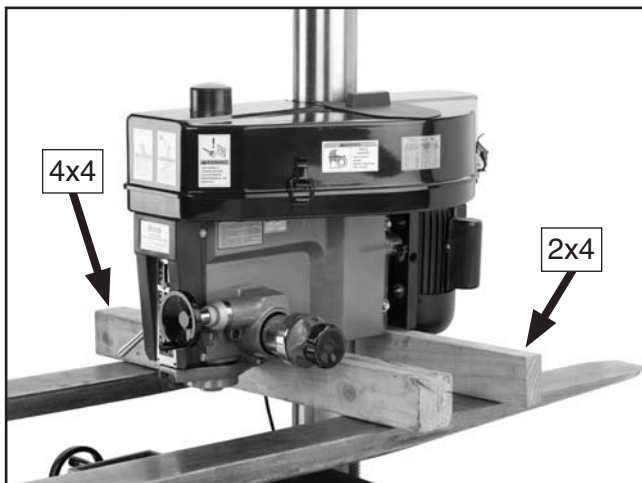

Figure 7. Positioning the boards and forks to lift the machine.
2. With assistance, place the 3' long 4x4 under the head just forward of the column, and the 3' long 2 x 4 under the head just behind the column, then make light contact with the forks of the lift evenly under the boards, as shown in **Figure 7**.